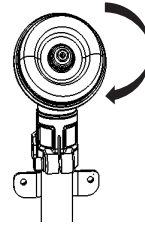

Fig. 2
1. Disassemble the nut (clockwise), dust cover, and support plate from gear case; (Fig. 2&3).